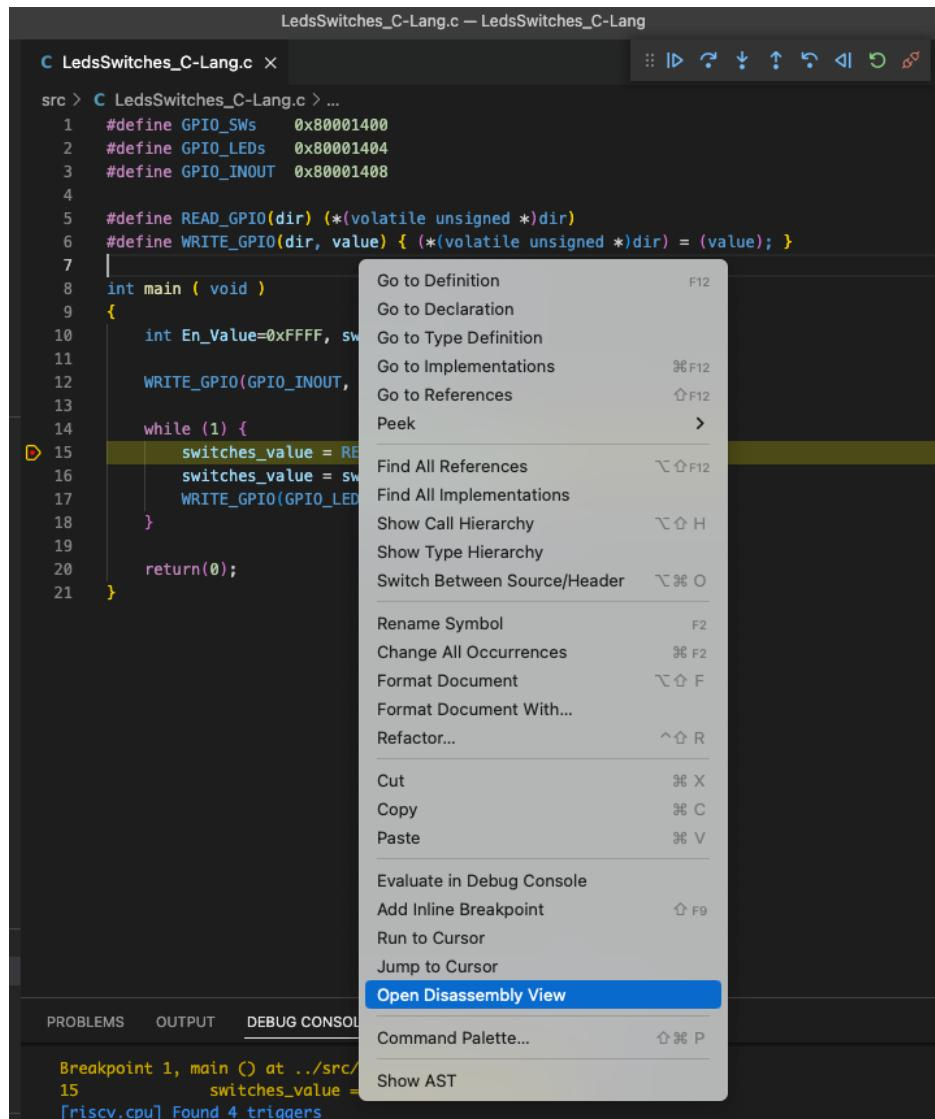

Figure 54. Switch to assembly
7. You can view the execution of the program in C as above or you can view the execution of the assembly program generated by the compiler, by right-clicking on the source file and selecting “Open Disassembly View” (Figure 54).